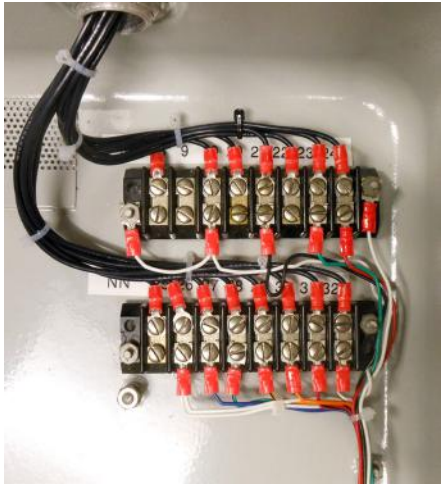

Figure 34. Connecting the QCA fork terminals to the NN terminal board.
10. Using Table 1, connect the QCA fork terminals to the appropriate screw terminals of the NN terminal boards. See Figure 34.
** Two white QCA harness wires are to fasten under terminal board mounting studs or ground stud points. See figure 34 for an example.